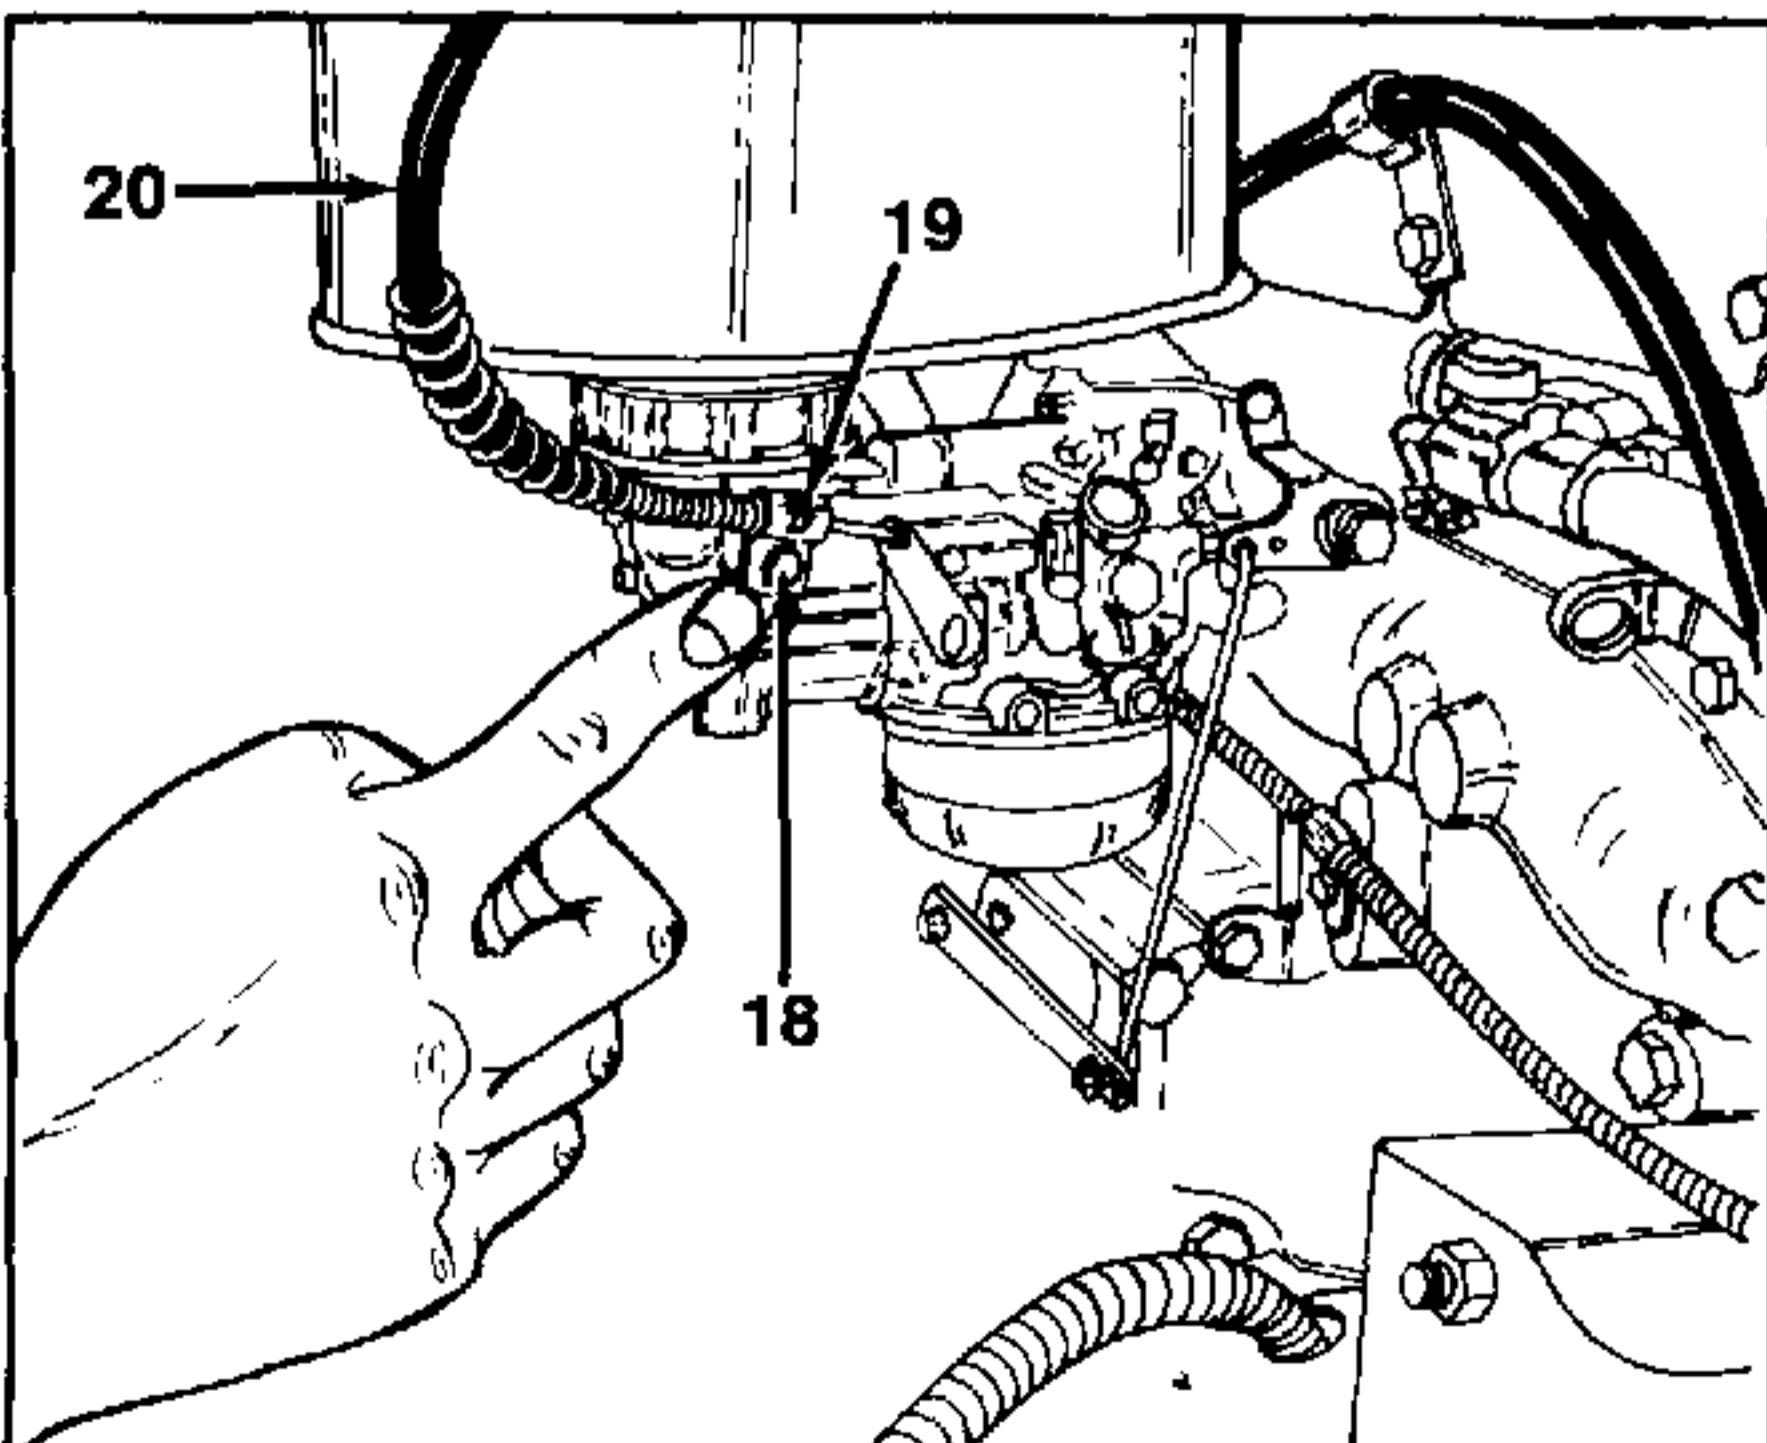

FIGURE 9.
13. Loosen the hex screw at the choke control clamp. See figure 9.
14. Disconnect the choke cable from the front of the engine. See figure 9.